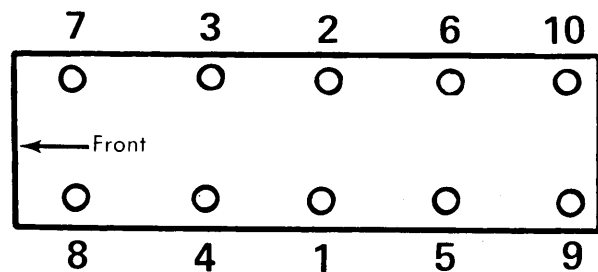

Fig. 1 Cylinder Head Tightening Sequence
2) Apply sealer to top of head and cam carrier mating surfaces. Coat head bolts with sealer and tighten in sequence (see Fig. 1). Reverse removal procedure to complete installation.